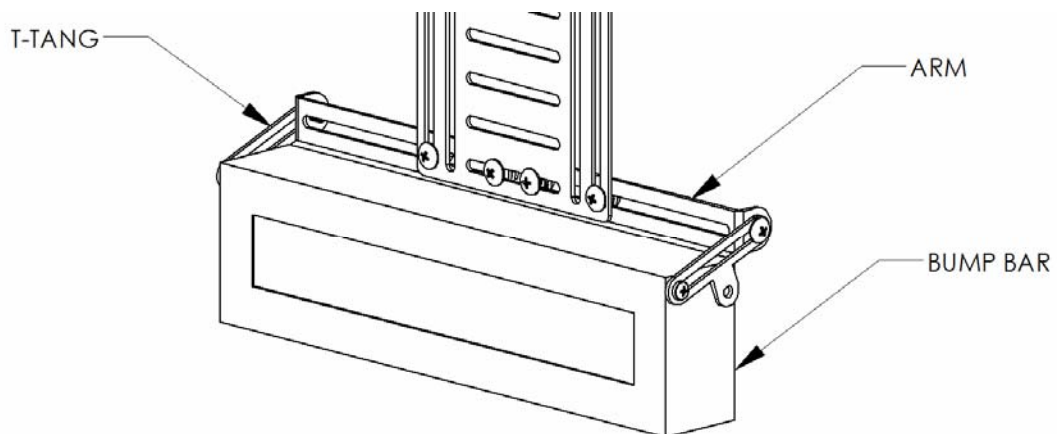

Figure 2 - Back of Screen Controller Mount with bump bar attached
6. Assemble the hardware kit to create two arms so that the slots in the arms or tee tangs align with the chassis screw holes on the sides, bottom, or back of the bump bar (See Figure 2). The other ends of the arms align with the slots on the *Back of Screen Controller Mount* mounting plate.